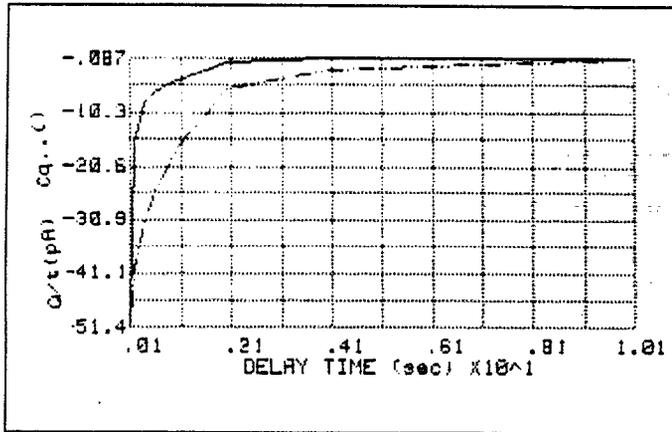

Figure 3-19. Q/t and C_Q vs. Delay Time Example
9. Once all points have been taken, press "G" to generate the Q/t and C_Q vs. t_{DELAY} graph, an example of which is shown in Figure 3-19. Note that both Q/t and C_Q will be automatically scaled along the Y axis of the graph. If desired, you can generate a hard-copy graph by using "DUMP GRAPHICS" to a compatible printer.